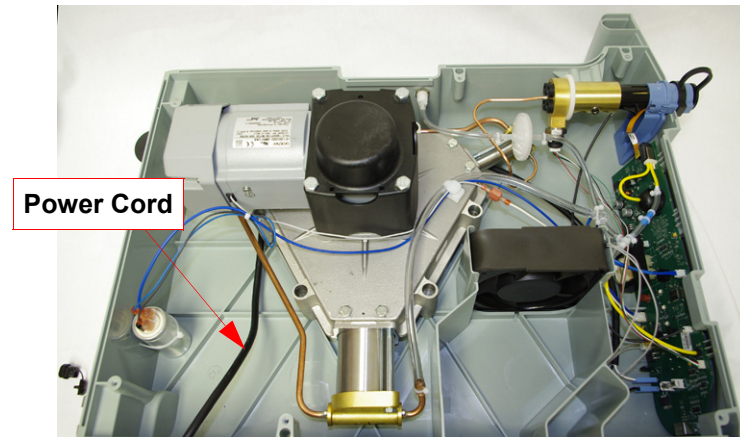

FIGURE 8-2 POWER CORD PLACEMENT
1. Thread the Power Cord through the hole in the Rear Cabinet, leaving approximately 40" of cord inside the Cabinet. The Power Cord should be threaded around the compressor, see Figure 8-2 for correct placement.